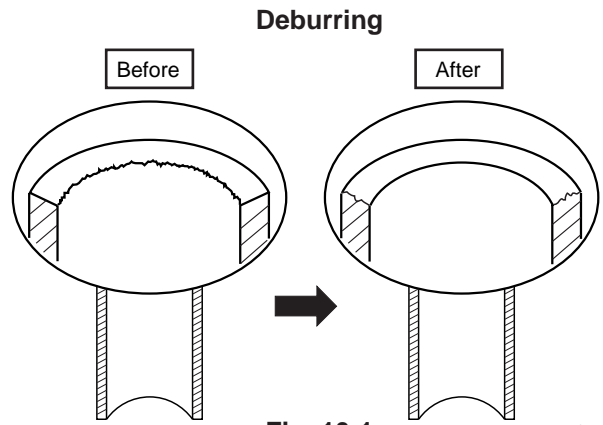

Fig. 10-1
- (1) Cut the copper tube to the required length with a tube cutter. It is recommended to cut about 12 – 20 in. longer than the estimated tubing length.
- (2) Remove burrs at the end of the copper tube with a tube reamer or file. This process is important and should be done carefully to make a good flare. (Fig. 10-1)